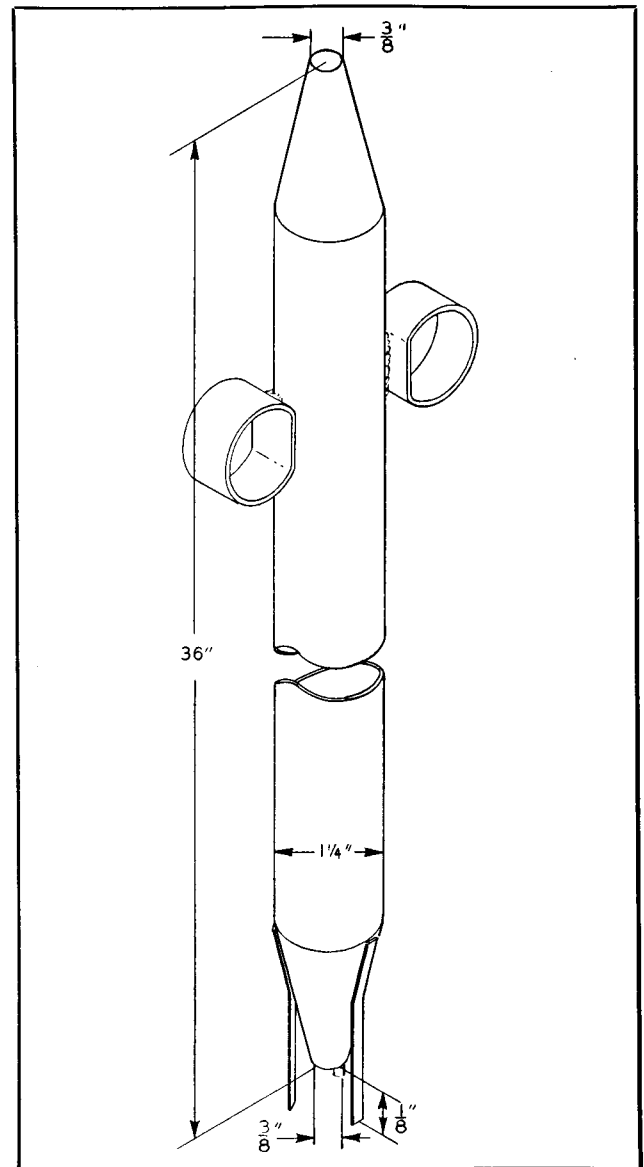

FIG. 1. Drum Thief
**Thiefs for Sampling.** A convenient and simple thief (see Figure 1) for use with 50 gal. drums may be made of tin as follows: